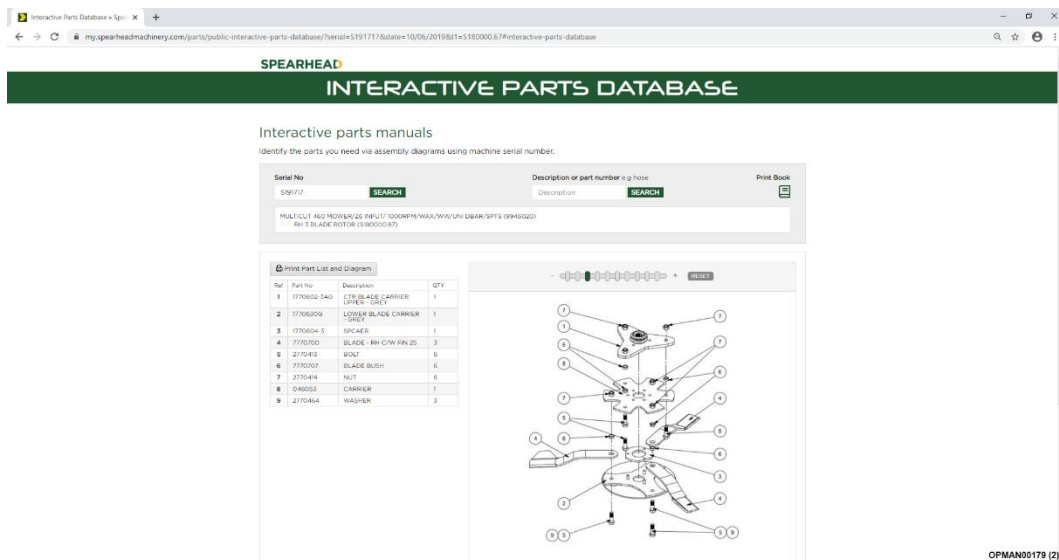

Figure 25 – Exploded Parts Breakdown With Bill Of Materials
- 7.1.1.4 You will finally be presented with a full exploded parts breakdown for that particular assembly, giving part numbers and the quantities required; see Figure 25.